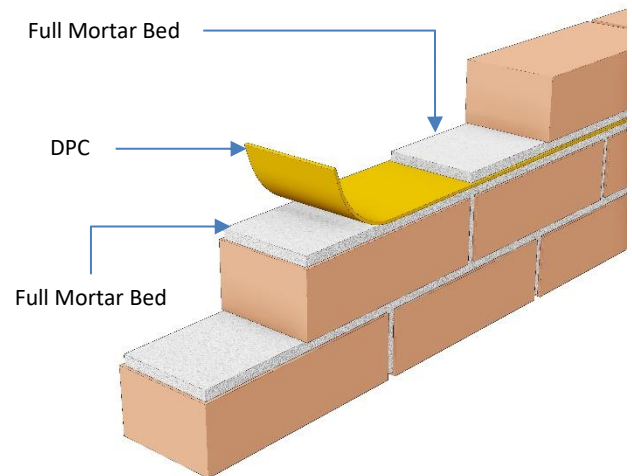

Figure 3 – IKO Hyload DPC bedding
- The DPC must be sandwiched between full even beds of wet mortar, receiving a further course of masonry units on mortar on the DPC. The weight of these immediate courses helps to develop good adhesion between the masonry units, the mortar and the DPC (Figure 3):